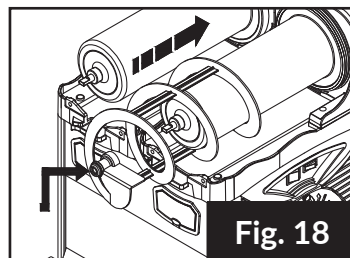

Fig. 18
4. Insert the Spiral Blade so that the head joins the transmission shaft. (Fig. 18)
5. Lubricate the external part of the head of the Spiral Blade (A). (Fig. 18)